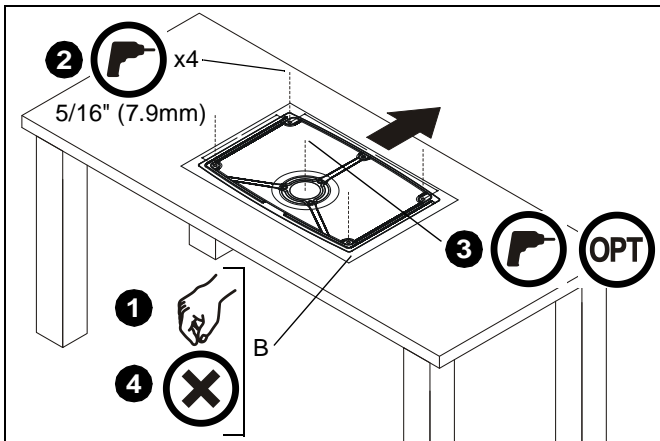

Figure 5
1. Temporarily attach template (B) to table at desired location, keeping in mind screen size and rotational range (See Figure 5). Ensure proper orientation of template (B).
2. Using template (B), drill four 5/16" (7.9mm) holes through table (See Figure 5).
3. OPTIONAL: Using template (B), drill cable management hole through table (See Figure 5). Ensure hole is of adequate diameter to accommodate cables and connectors.
4. Remove template (B) from table (See Figure 5).